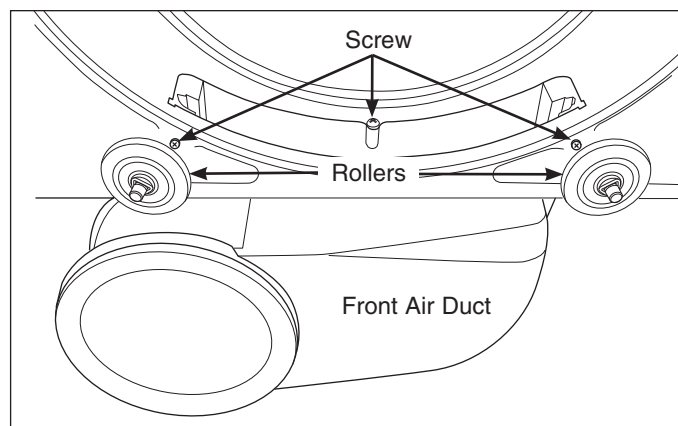

Figure 4-32.
NOTE: With the drum removed, all roller assemblies are accessible. Figure 4-32 illustrates the front roller assemblies.
3. Using a #2 square bit screwdriver, extract the three screws securing the front air duct to the front inner panel. (See Figure 4-32)